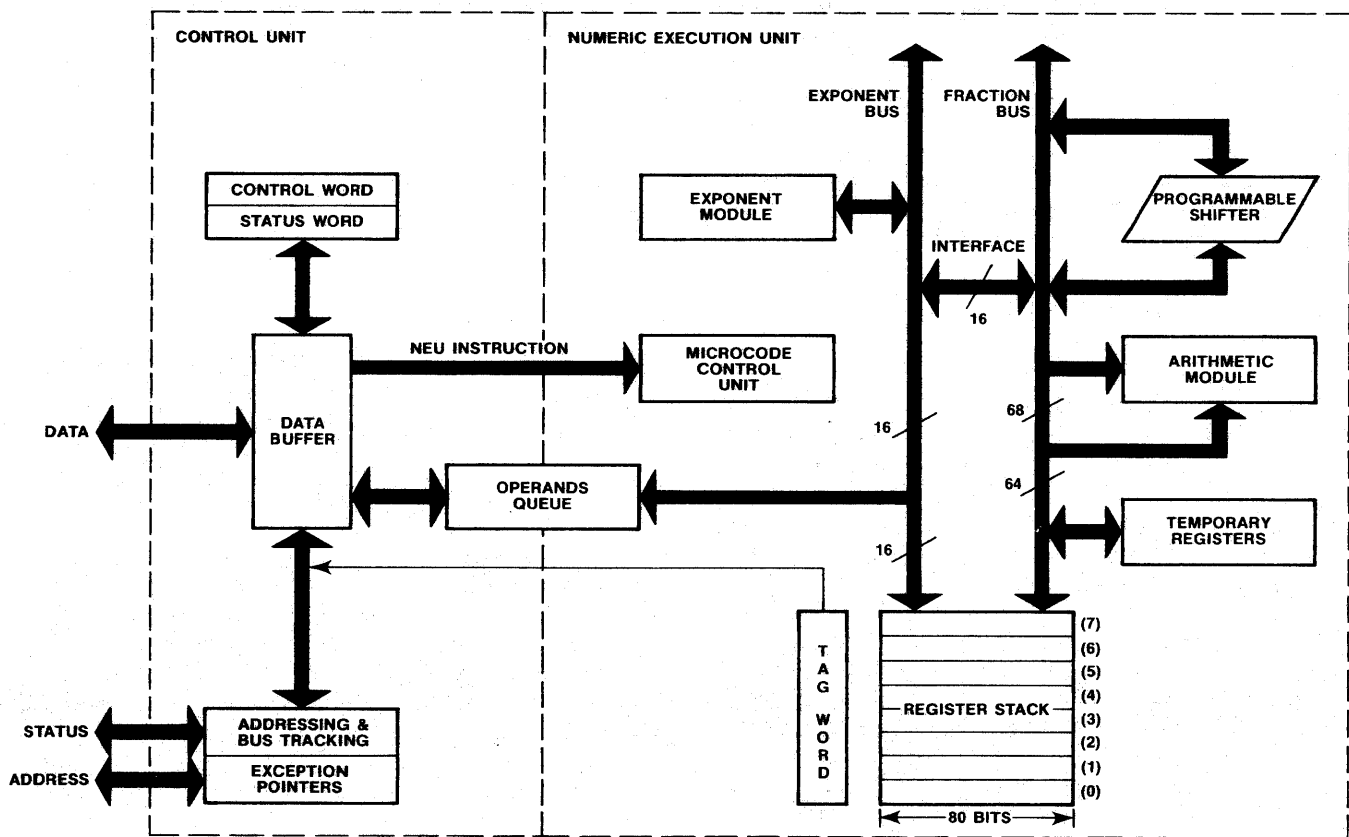

Figure 4-3. 8087 Block Diagram
As shown in figure 4-3, the 8086 is internally divided into two processing elements, the control unit (CU) and the numeric execution unit (NEU). In essence, the NEU executes all numeric instructions, while the CU fetches instructions, reads and writes memory operands, and executes the processor control type of instructions. The two elements are able to operate independently of one another, allowing the CPU to maintain synchronization with the CU while the NEU executes numeric instructions.